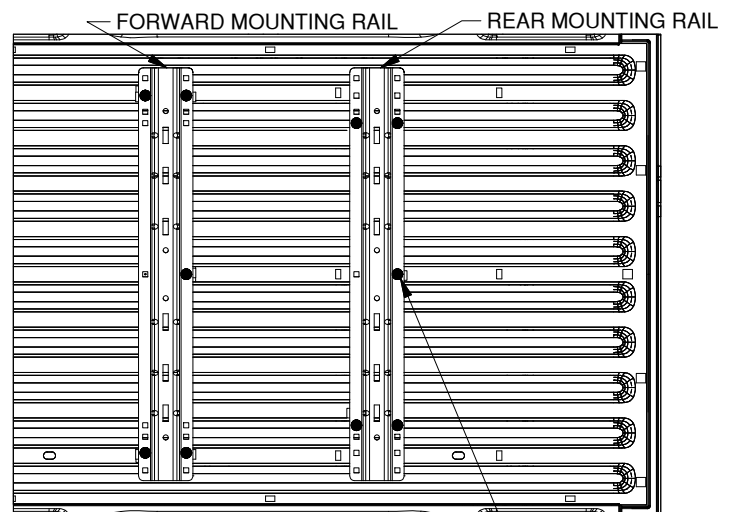

Figure A2: Detail view over bed, showing drill locations for the forward and rear bed rails.
- 2. Mark hole locations.** While carefully ensuring the mounting rail does not move, use a center punch tool to mark the 5 drill locations on the rear rail. See Figure A2 for hole marking locations for this installation (forward rails will install on a later step). Once all 5 rear rail locations are clearly marked, move the bed rail out of the way and drill each location with an 1/8" drill.
3. **Drill forward mounting holes.** Using the same methods as used for the rear mounting rail, mark and drill the 1/8" holes for the forward mounting rail. Refer to "DRILL REAR MOUNTING HOLES" section, Step 2, on a previous page. Notice that the hole locations are slightly different than the rear rail, see Figure A2 (on the second page).